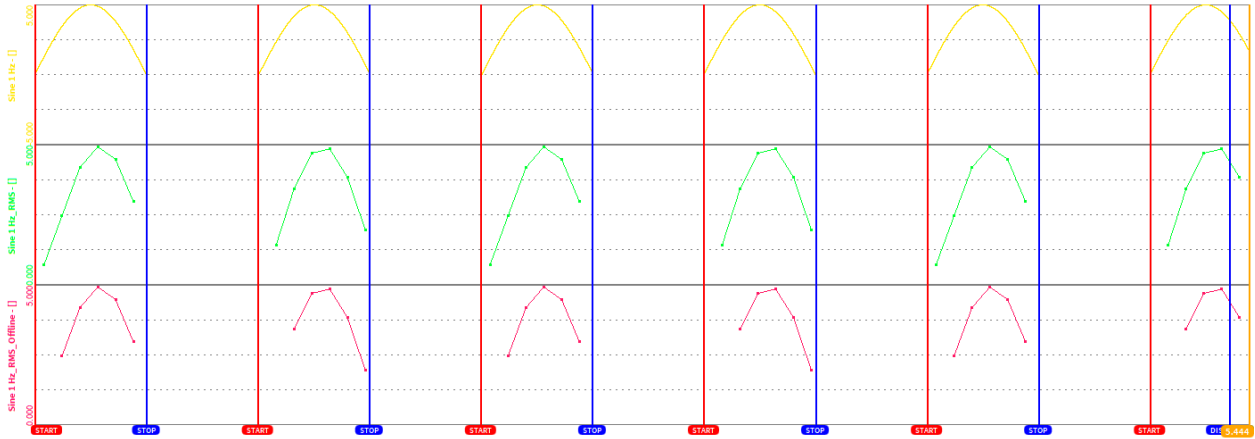

Figure 5-68: Deviation of Offline and Online statistics channels in case of Event based waveform recording
- Please be aware that an Offline Statistics channel will differ from an Online statistics channel, i.e. at the beginning of the file or in case of Event based waveform recording (see section 7). In the example displayed in Figure 5-68, the green channel is an online calculated statistics channel applied on the yellow analog channel and the red channel is an offline calculated statistics channel applied on the yellow analog channel with identical channel settings. The deviation of the green and the red channel is due to the availability of the full analog data during online calculation. During the offline calculation, only the event based recorded analog data is available.